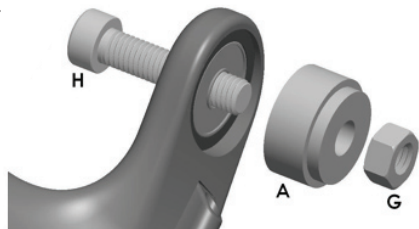

Fig. 3
1. To remove the Main Pivot Bearings orient the tool as seen in Fig. 3. Use an Allen wrench and open wrench to draw the bearings out of the Chain Stay Yoke.